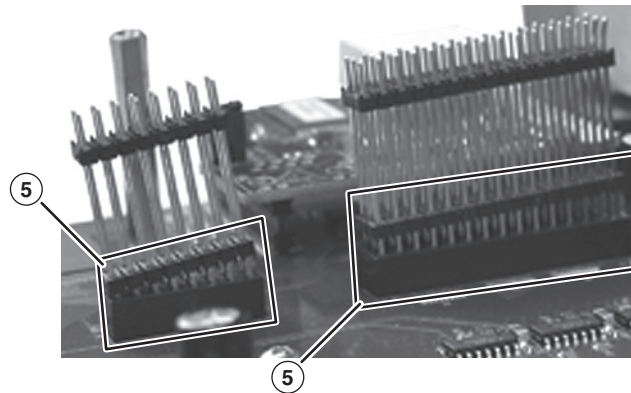

Figure 8 — Connector extensions
4. Align one or both connector extension(s) with J1 and J2A/J2B on the main board (⑤). Gently apply pressure to carefully mate the extension(s) with the main board (figure 8).